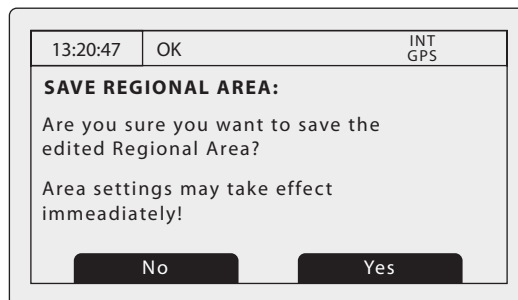

Figure 51 Regional area settings confirmation screen
7. You will be prompted to confirm storage of the regional area setting with the display shown in Figure 51.